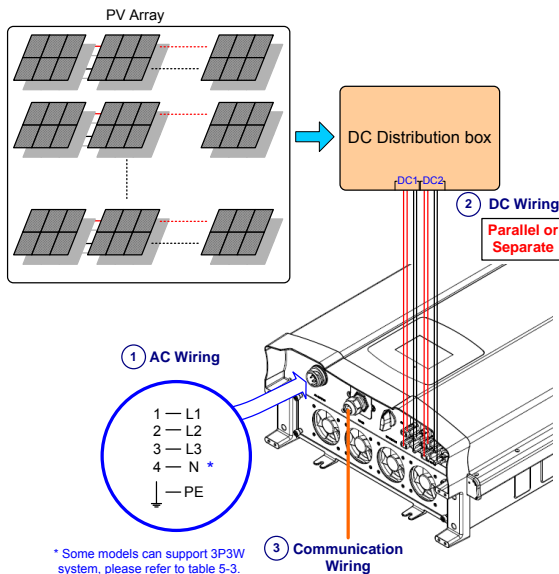

Figure 5-1 Connection of a system for floating DC inputs
4. Whole system wiring and connections can be seen in Figure 5-1 and 5-2.